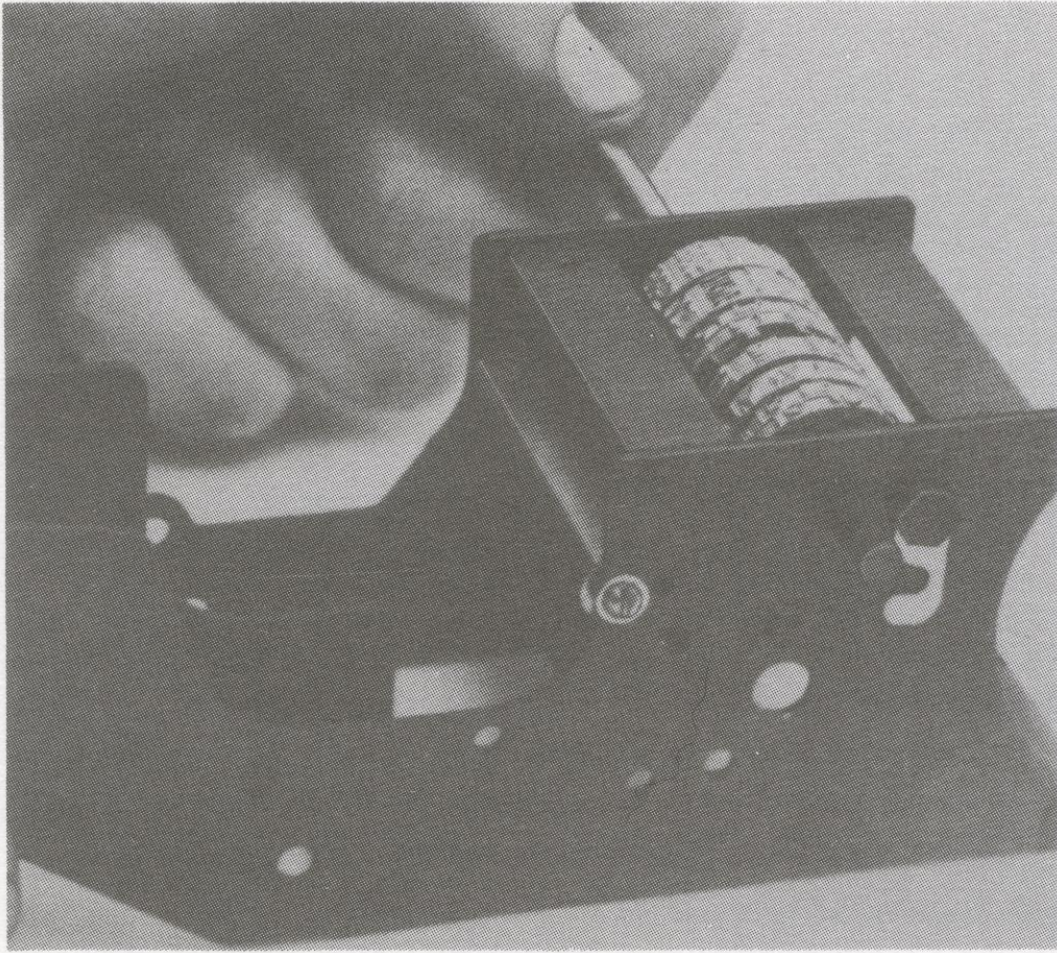

Figure 20
-Use "floating shaft" to push out existing shaft, allowing swing to fall free of frame. (Push from side of frame opposite retainer **figure 20**).